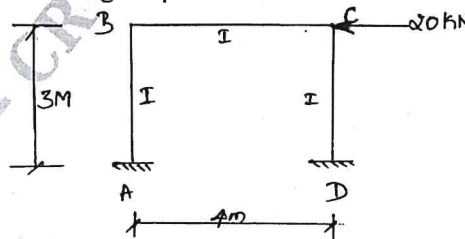

Fig.Q4
- 4 Frame ABCD is subjected to a horizontal force of 20 kN at joint C as shown in Fig.Q4. Analyze and draw BMD. Using Slope Deflection Method. (20 Marks)